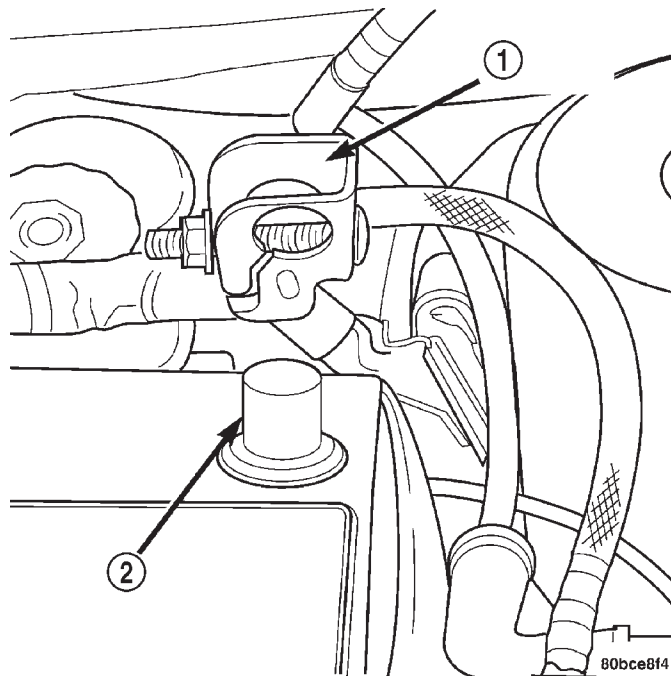

Fig. 1 Battery Negative Cable Remove/Install
(1) Disconnect and isolate the battery negative cable (Fig. 1).
(2) Using a trim stick (special tool #C-4755) or equivalent, gently pry up on window switch bezel and remove from door trim panel.
(3) Disconnect wire connector from switch.
(4) Remove two switch retaining screws.
(2) Move the window to the full-up position, if possible.
(3) Remove front door trim panel. Refer to Group 23-Body, Front Door Trim Panel Removal and Installation.
(4) Remove front door water shield.